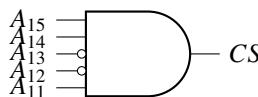

Fig. 3.27: Logic Diagram
43. The chip select logic for a certain DRAM chip in a memory system design is shown below in Fig. 3.27. Assume that the memory system has 16 address lines denoted by